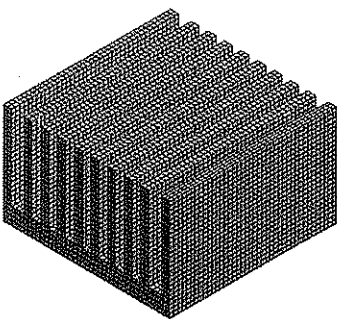

Figure 11-51 Mesh generated on the model
5. Choose the **Generate Mesh** tool from the **Mesh** drop-down of the **Mesh** contextual toolbar; the mesh is generated, as shown in Figure 11-51.